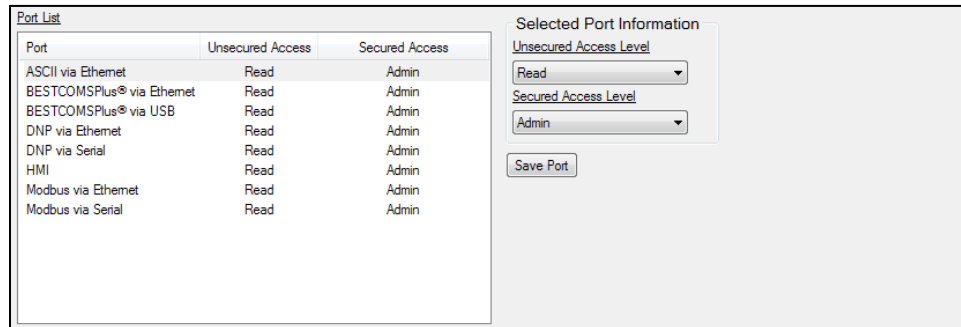

Figure 56-3. Port List Screen
1. Use the Settings Explorer in BESTCOMSP*lus* to select Port Access Setup under General Settings, Device Security Setup. The Port List screen is shown in Figure 56-3.